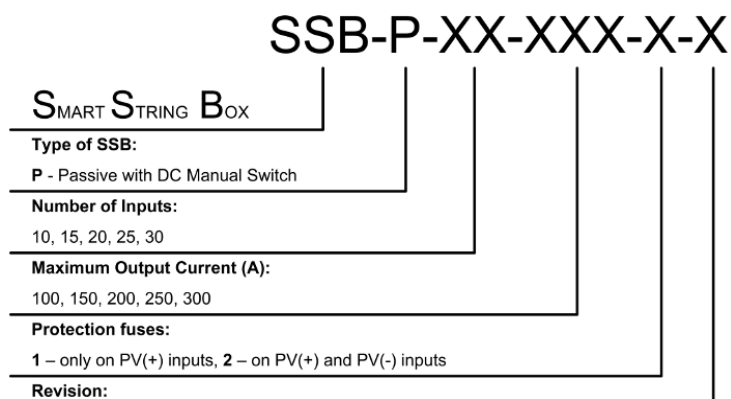

Figure 1.2 Product identification description (see Figure 1.1-1)
- 1 - Product identification (see also Figure 1.2)
The product identification (type code) [Figure 1.1-1] description is shown in Figure 1.2.